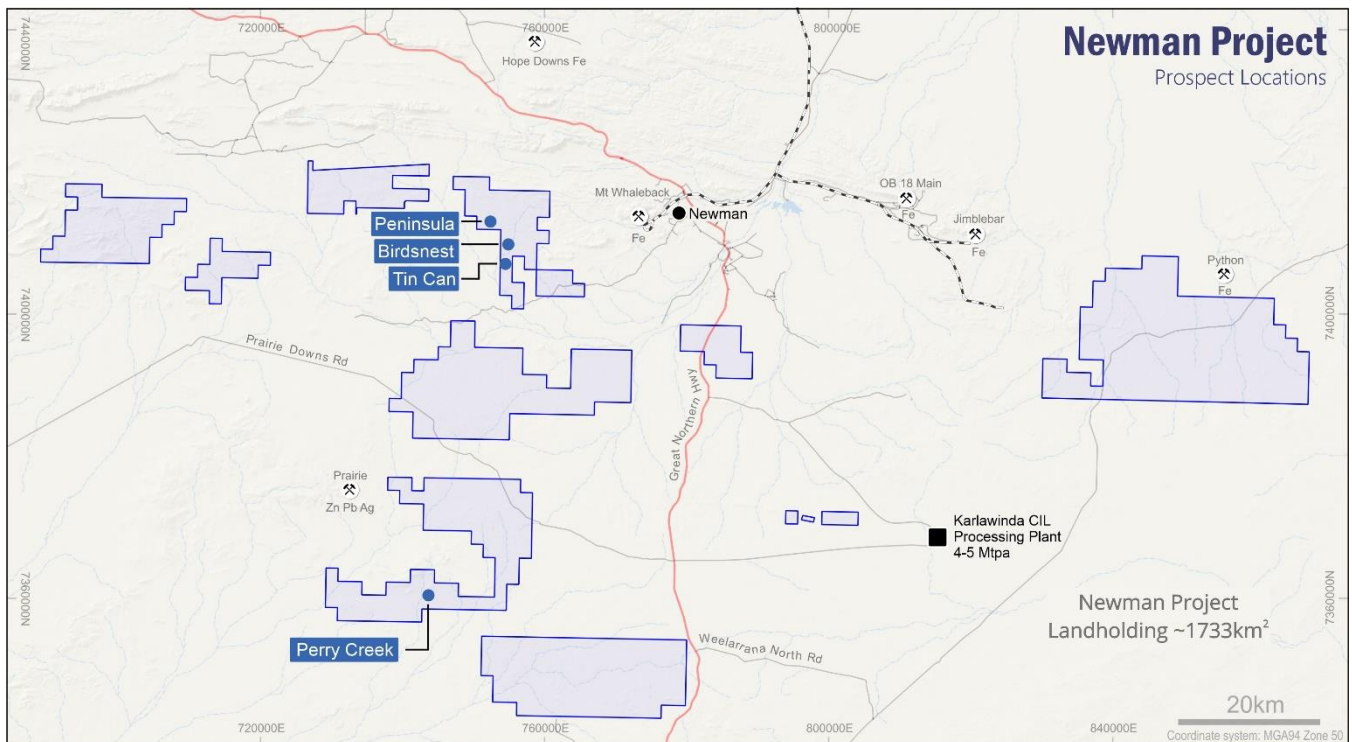

Figure 3: Newman Gold Project tenement locations
The Company holds a 100% interest in the Newman Gold Project (formerly Pilbara Gold Project) consisting of twelve (12) granted exploration licences (and eight applications) covering a total of 1,894km² located on the Sylvania Inlier in the south west of the prolific Pilbara region. The project is situated approximately 30km south and west of Newman and approximately 1,000km north-north east of Perth at the southern edge of the Hamersley area of Western Australia (Figure 3). The tenements are neighbouring Capricorn Metal Limited’s Karlawinda Gold Project (“Karlawinda”).